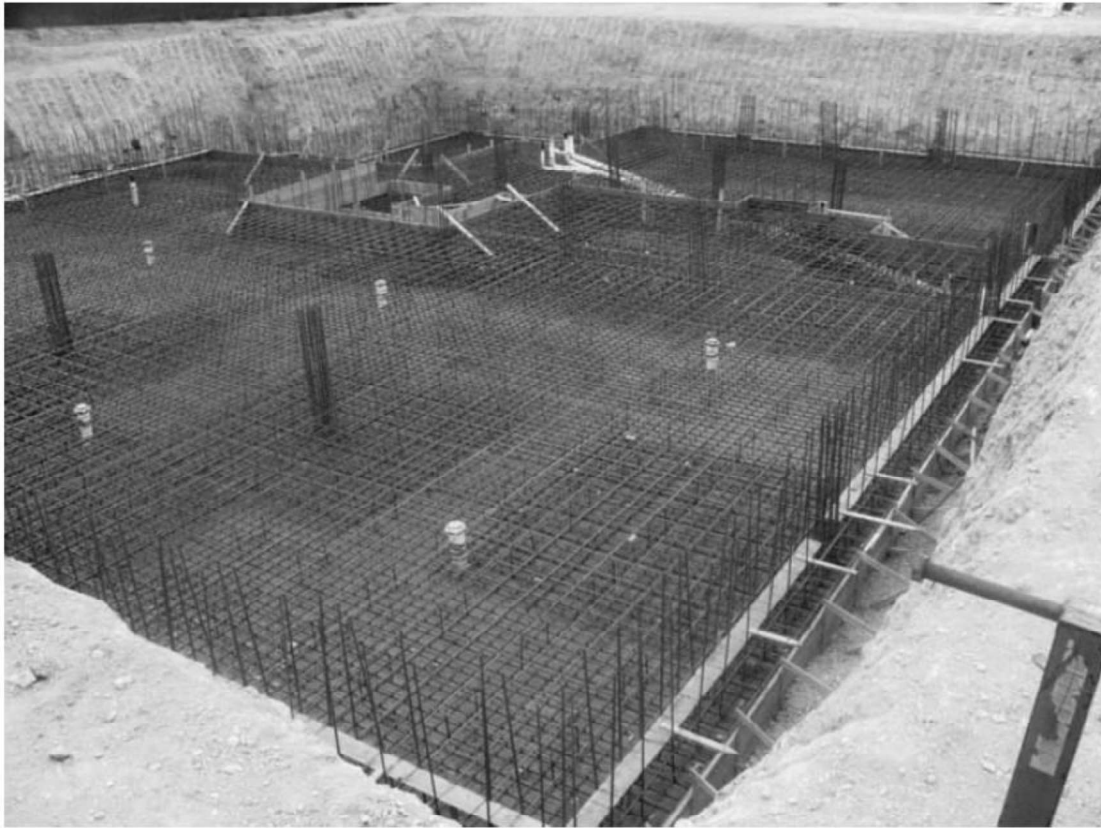

Fig.1 Mat foundation under construction
Step 1. Figure 1 shows mat dimensions $B * L$ of the mat foundation and column loads of $Q_1, Q_2, Q_3, \dots \dots \dots Q_n$